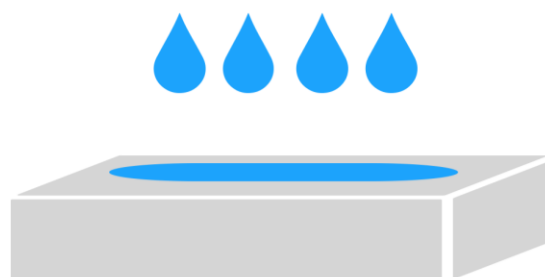

Figure 5: Liquid odorant dispensed onto the sponge material.
- The liquid odorant can be deposited on to the sponge using a micropipette, as shown in Figure 5. The liquid should be deposited along the sponge for consistent distribution. Around 0.5 – 1 mL of liquid has been found to be generally sufficient.